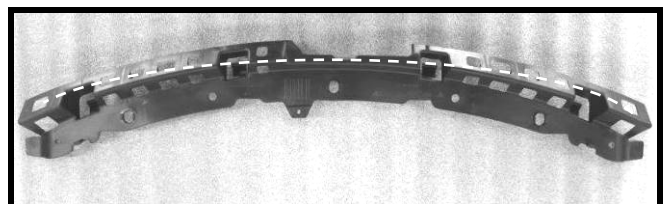

Fig. 32
- 27 Mount the TECHART air outlet grille 091.100.182.100 (9) into the hole of the front apron (8).
- 28 Attach the TECHART bottom part (15) and tighten with the screws 2.9x13 into the TECHART air outlet grille (9). If necessary unhinge the grille and press to the side, see arrow on fig. 32.
- 29 Reinstall the water hose; stick the sensor from the rear bottom flush to the TECHART bottom part (15).